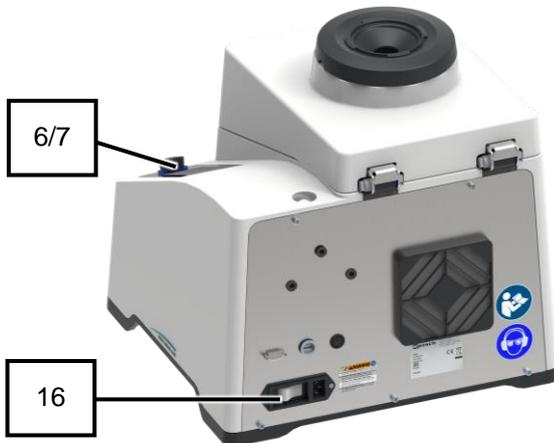

Fig. 10: Switching on the device
2. Switch on the device with the main switch (16) at the rear of the device (Fig. 10).
- The touch display (6) is activated and the background of the control dial (7) briefly lights up in blue.